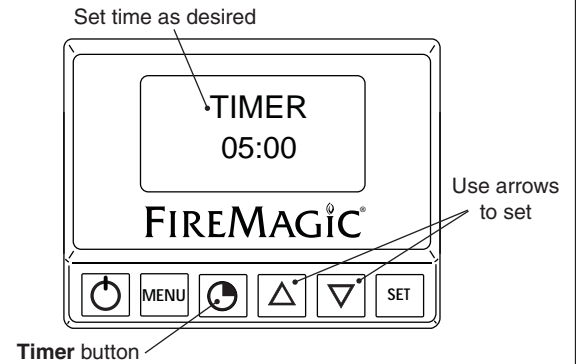

Fig. 21-1 Timer screen
1. Press the timer button. Use the arrows to set the desired amount of time (see Fig. 21-1.)